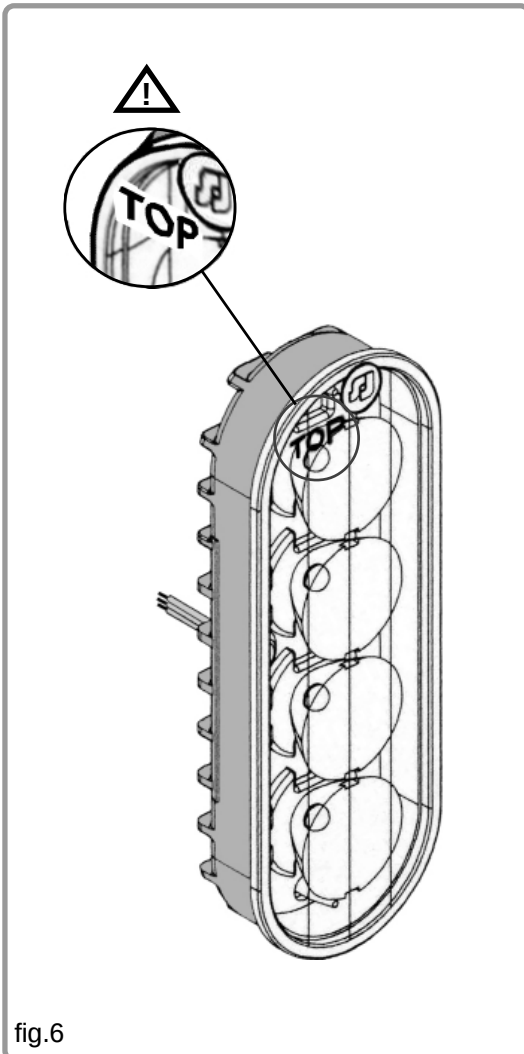

fig.6
- La marca "TOP" del foco Microled Plus-V, con lente grabada, led azul, e instalación vertical ha de estar hacia arriba y leerse correctamente (ver fig.6).
- The "TOP" mark of Microled Plus-V with spreader lens, blue led, and vertically installation has to be up and read correctly (see fig.6).